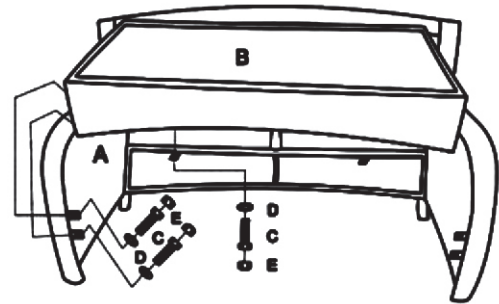

Figure 2
Step 2. With the help of another person, carefully place the seat (B) into the seat frame. Connect the seat to the seat frame with bolts (C), washers (D) by using open wrench (F), then cover the bolts with bolt covers (E) as shown in figure 2.
(Figure 2&3)